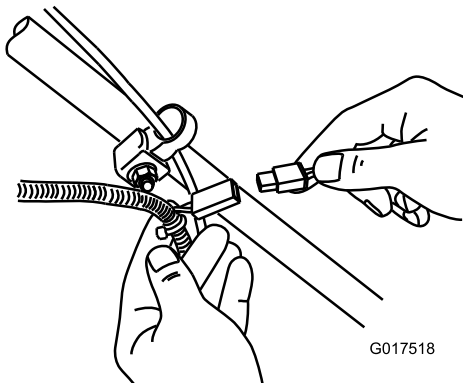

Figure 32
1. Connect the charger to the wire harness located below the ignition key (Figure 32).